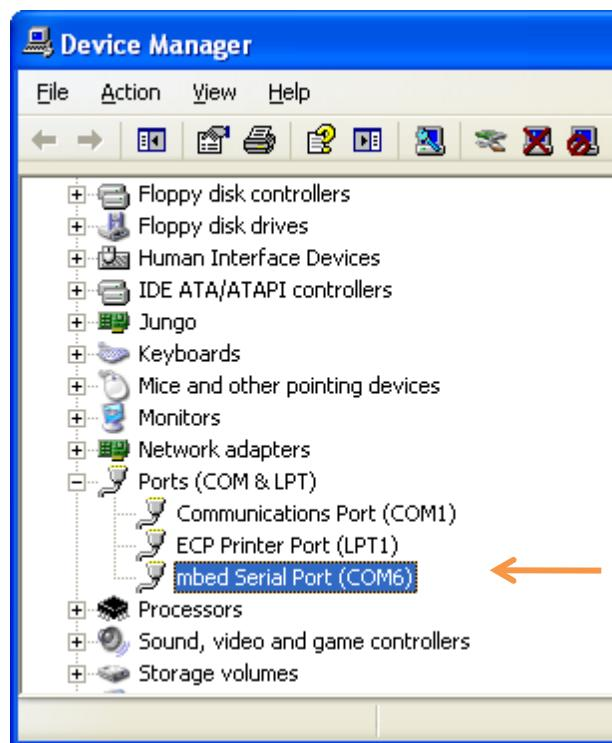

Figure 5. COM port associated with the LinkIt 7687 HDK
- In **Device Manager**, navigate to **Ports (COM & LPT)** (see Figure 5).
- A new **COM** device should appear under **Ports (COM & LPT)** in **Device Manager**, as shown in Figure 5. Note the **COMx** port number of the serial communication port, this information is needed to send command and receive logs from the COM port.
- 17) Select the COM port number that maps to the mbed serial port shown in Figure 5.